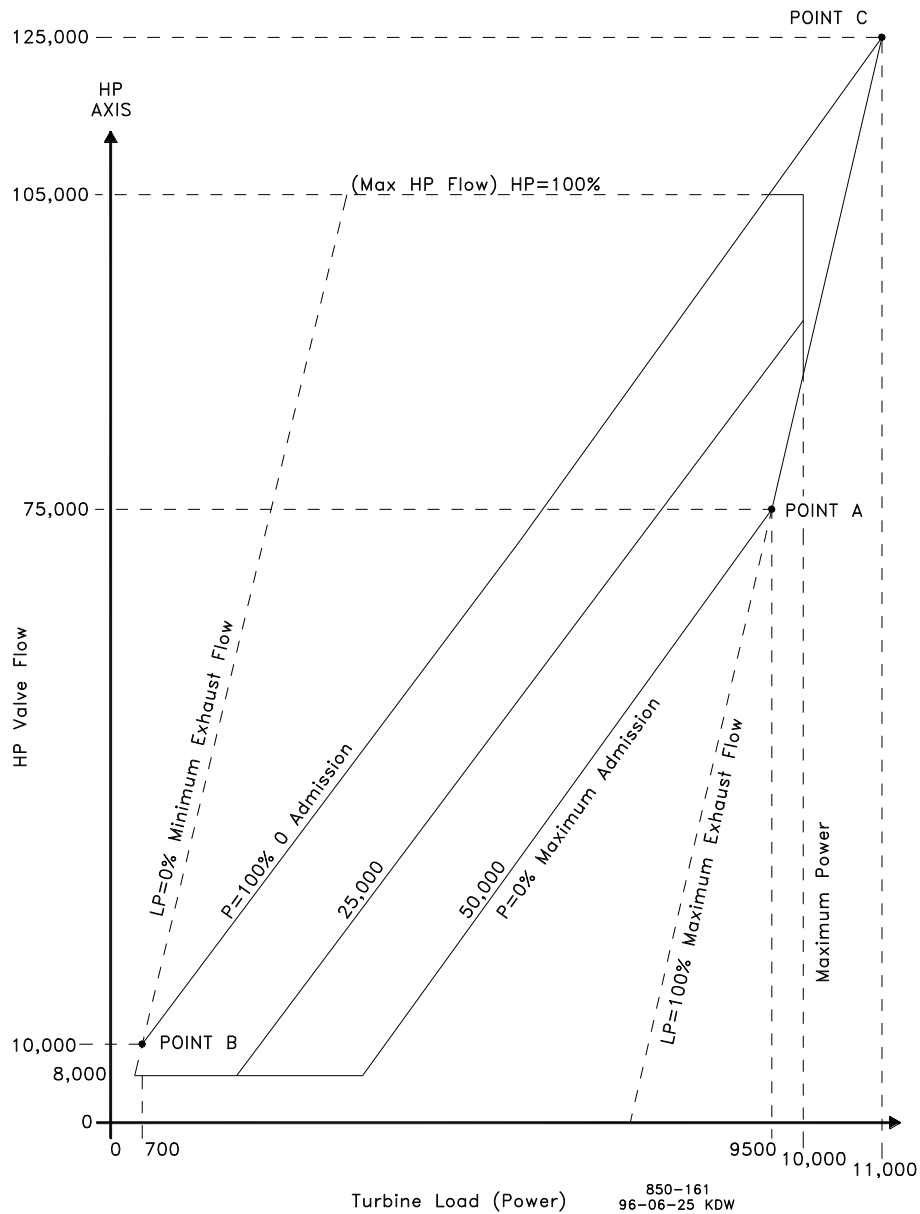

Figure 3-28. Typical Admission Steam Map
If points B & C do not exist, your map will have to be modified to include points B & C. The LP=0 line will need to be created. To create the LP=0 line you must know the minimum required steam flow through the back end of the turbine. In our example steam map (Figure 3-28) the minimum required flow was 8000 lb/h (3629 kg/h).
1. Extend the maximum extraction line. Refer to Figure 3-28.